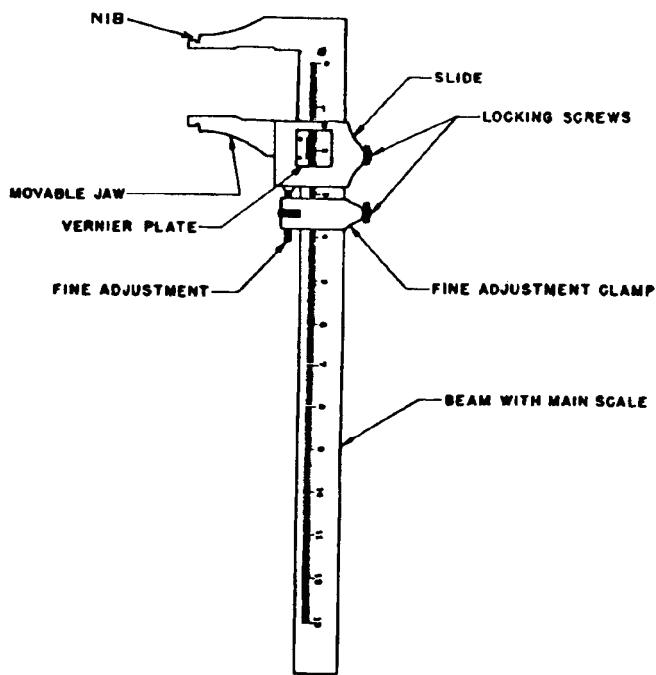

Figure 1. Caliper, vernier - typical view.
**1. Test Instrument Identification.** This bulletin provides instructions for the calibration of Vernier Calipers, Type 1, Classes 1, 2, and 3 Digital and Dial Calipers (fig. 1). The GSA Supply Catalog, and manufacturers' catalogs and specifications were used as the prime data sources in compiling these instructions. The equipment being calibrated will be referred to as the TI (test instrument) throughout this bulletin.